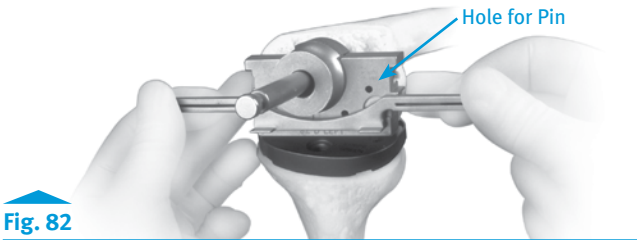

Fig. 82
- If the Femoral Stem Base/Cutting Block is in proper alignment and rotation, insert two Headless Holding Pins into the upper two holes (Fig 82). Then proceed to “Step 6: Finish Femur.”
- Confirm appropriate external rotation, and insert two Headless Holding Pins in the upper two holes of the block (Fig. 82).